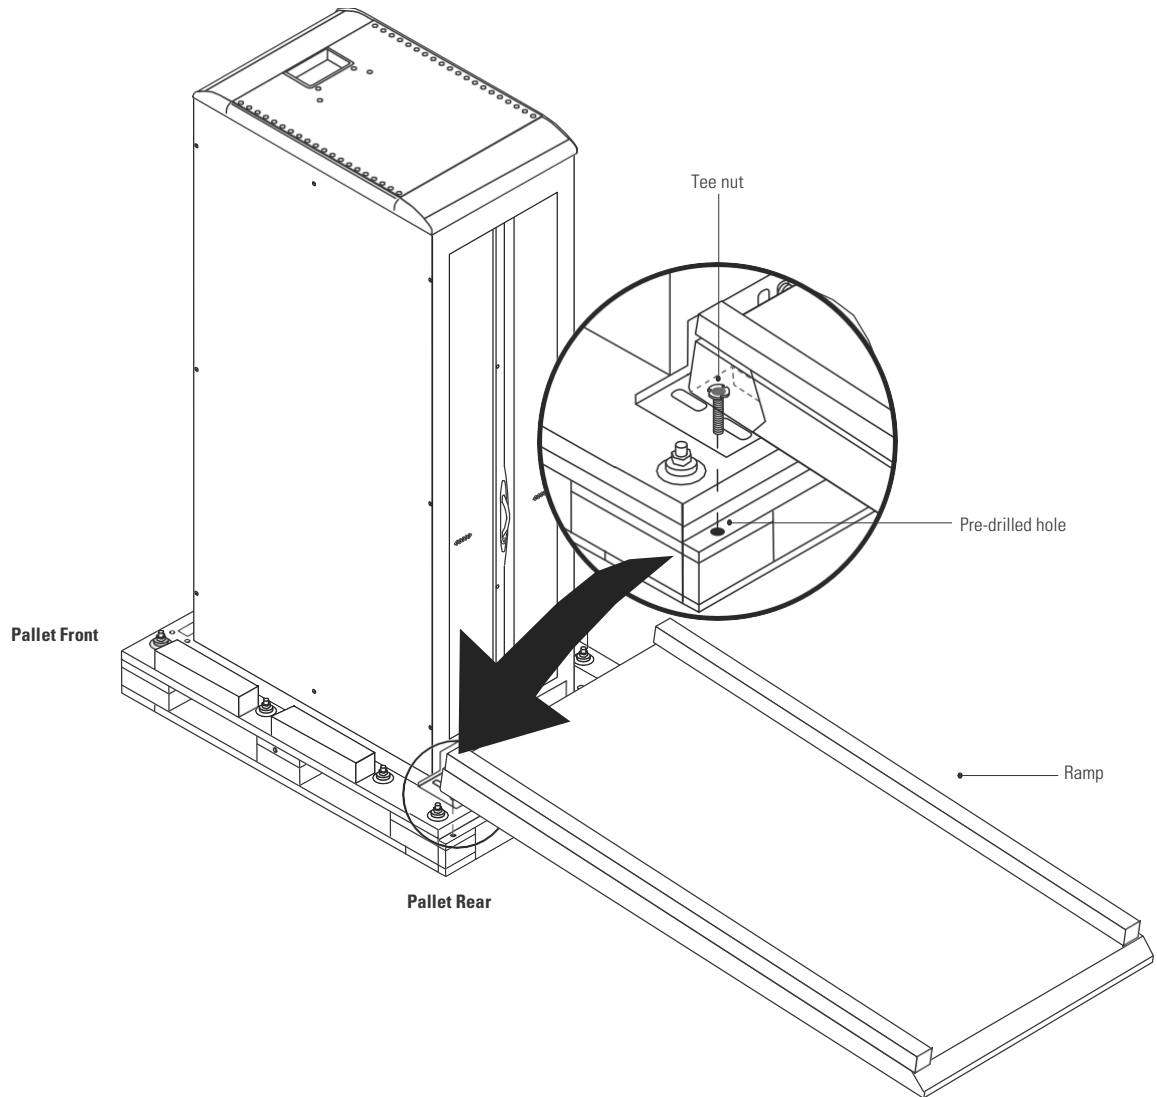

Figure 7. Attaching the Ramp to the Pallet
4. Lift the ramp from the back of the cabinet. Attach it to the pallet by inserting the left and right ramp pins (tee nuts) into the pre-drilled holes at the rear of the pallet (see Figure 7).